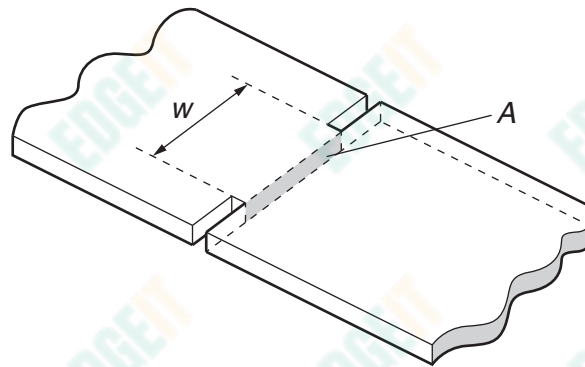

Fig. 2.2
- (c) The cross-sectional area A of the strip between the cuts is shown in Fig. 2.2.